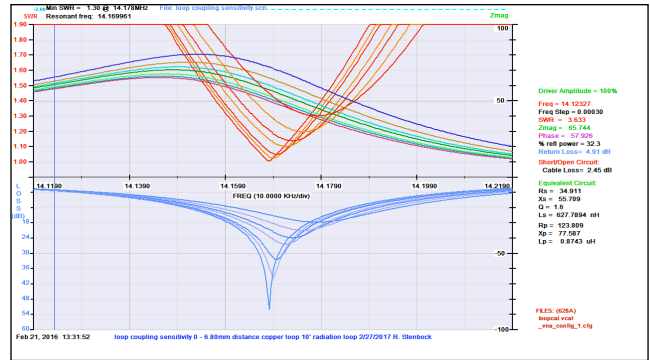

Fig. 12 Induction loop sensitivity, vertical position +/- 1/4"
5. You can make fine SWR adjustment by sliding the induction loop up or down about 1/4 inch see Fig. 12. Once you achieve an SWR of 2.0 or less, your ready for a QSO.